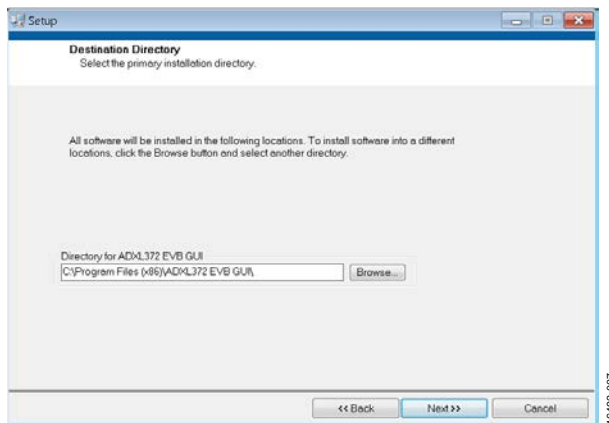

Figure 7. **ADXL372** Evaluation Board GUI Destination Director Selection
1. Select the destination directory. The installer autopopulates the names of the directories in which to store the software GUI and required National Instruments products (see Figure 7). You can change these directories; however, most installations can proceed with the default values.